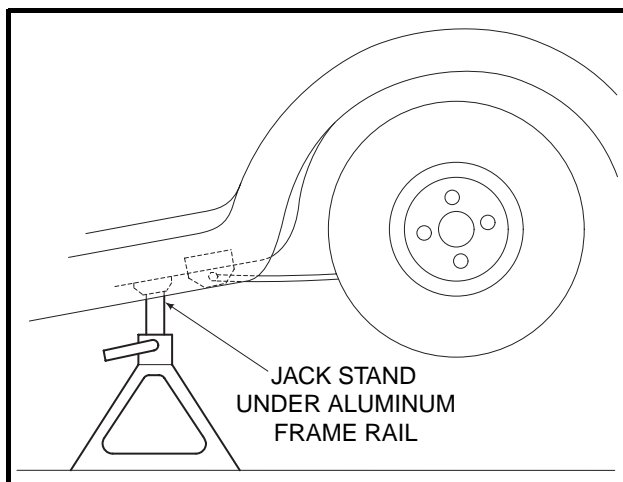

Figure 16-6 Vehicle Supported on Jack Stands
3. Place a floor jack under the transaxle and raise the rear of the vehicle. Position jack stands under the aluminum frame rails forward of the spring mount. Lower the vehicle to let the jack stands support the vehicle (Figure 16-6, Page 16-5). See **WARNING “Lift only one end of the vehicle...”** in General Warnings, Section 1, Page 1-1.